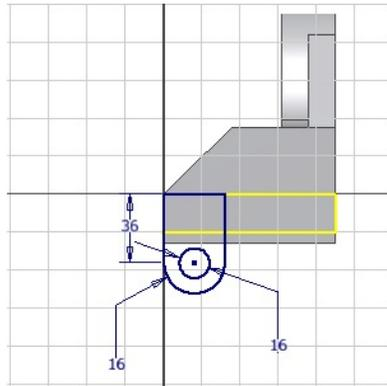

Figure 6-126 Sketch of the join feature
2. Draw the sketch of the join feature. Draw a circle inside the sketch such that when extruded, a hole is created automatically. Add the required constraints and dimensions to it, as shown in Figure 6-126, and then exit the Sketching environment.